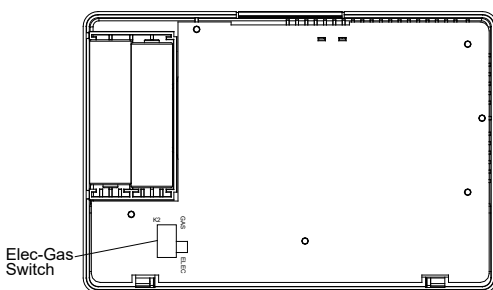

Figure 1. Electric/Gas Switch (Fan Option)
This thermostat is configured from the factory to operate a heat/cool, fossil fuel (gas, oil, etc.), and forced air system. It is configured correctly for any system that DOES NOT require the thermostat to energize the fan on a call for heat. If you system is an electric heat or heat-pump system that requires the thermostat to turn on the fan on a call for heat, locate the ELEC/GAS switch on the back of the thermostat (see fig. 1) and switch it to the ELEC position. This will allow the thermostat to energize the fan immediately on a call for heat. If you are unsure if the heating/cooling system requires the thermostat to control the fan, contact a qualified heating and air conditioning service person. When the thermostat is configured for Heat Pump, the thermostat will always power the circulator fan on a call for heat in the HEAT mode. The ELEC/GAS switch must be set to match the type of Auxiliary heat your system uses for proper operation in the EMERGENCY mode. All wiring diagrams are for typical systems only. Refer to equipment manufacturers' instructions for specific system wiring information.
- Fasten base loosely to wall, as shown in fig. 1, using two mounting screws. Place a level against bottom of base, adjust until level, and then tighten screws. (Leveling is for Appearance only and will not affect thermostat operation.) If you are using existing mounting holes, or if holes drilled are too large and do not allow you to tighten base snugly, use plastic screw anchors to secure subbase.